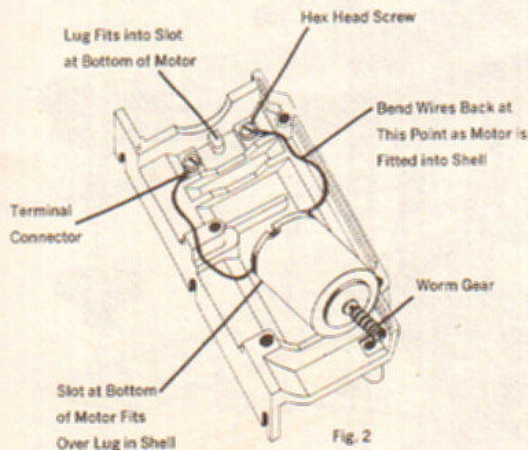

Fig. 2
1. Remove tape holding motor shells together and separate the shells. Next insert the hex head brass screws through the holes in the terminal connectors attached to the lead wires on the motor. Now run the screws through the holes in motor shell "A", making sure the terminal connectors are in the position shown in Fig. 2. Screw a nut onto each screw and tighten. Now place another nut loosely on each screw. These screws are the terminals to which the wires from the power source will be connected.